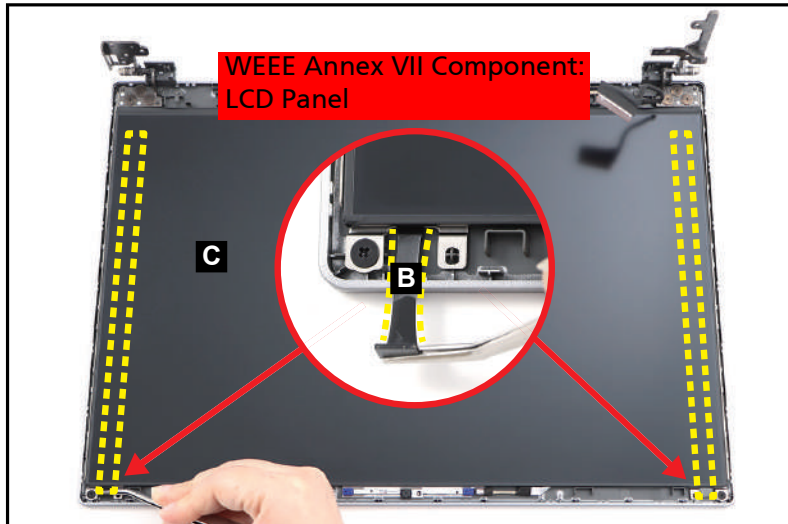

Figure 3-76. LCD Panel Removal
2. Pry slightly to access the double-sided mounting tape (B) underneath the LCD panel (C). Then pull to detach the double-sided mounting tape. Repeat the same procedure to remove the double-sided mounting tape on another side of the LCD panel (Figure 3-76).